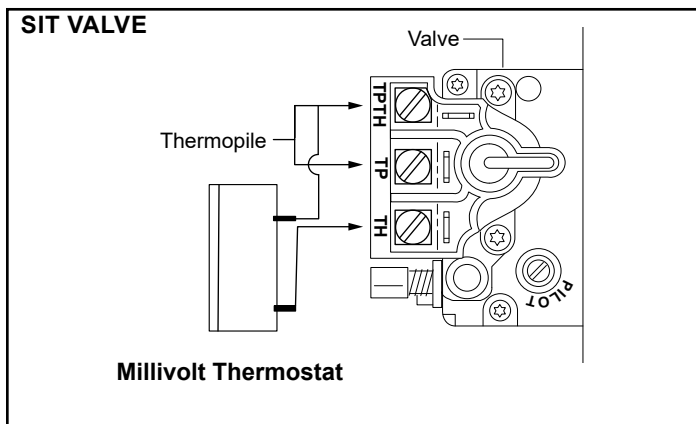

Figure 3.63- Install wiring to Thermostat before connecting to valve.
2. Connect the thermostat or wall switch wires to the valve, Figure 3.63.